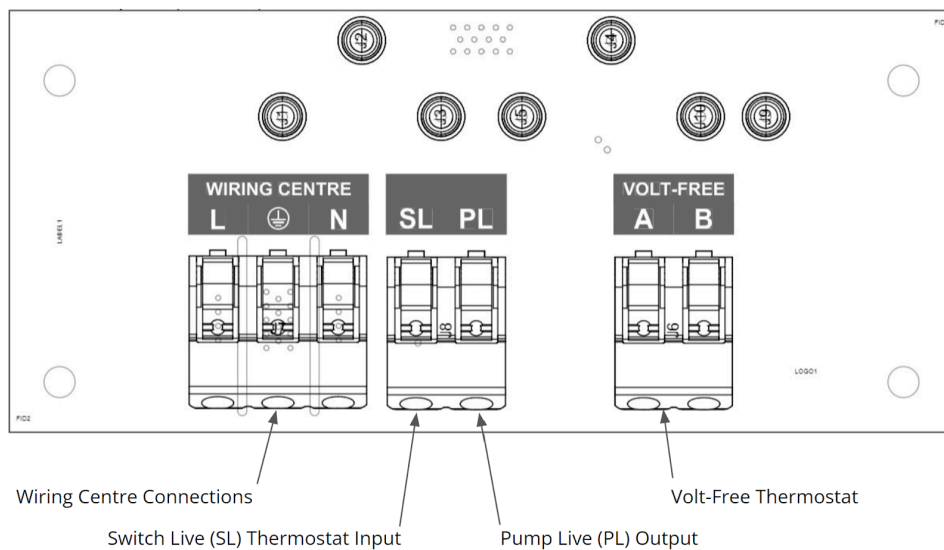

Figure 10: Comms Box wiring terminals
- The communications box wiring is detailed in **Figure 10**: